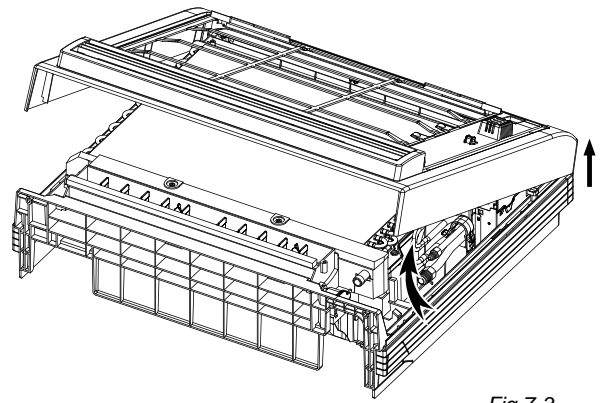

Fig. 7-3
- Open the bottom of the faceplate at a 30 degree angle, then the top of face plate can be lifted. (Refer to Fig. 7-3)